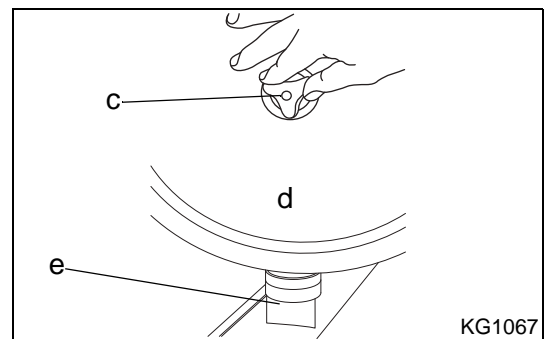

Fig. 5-20
- Install a new primary air filter element, then reinstall the outer cover (d) and star nut (c). Fig. 5-20